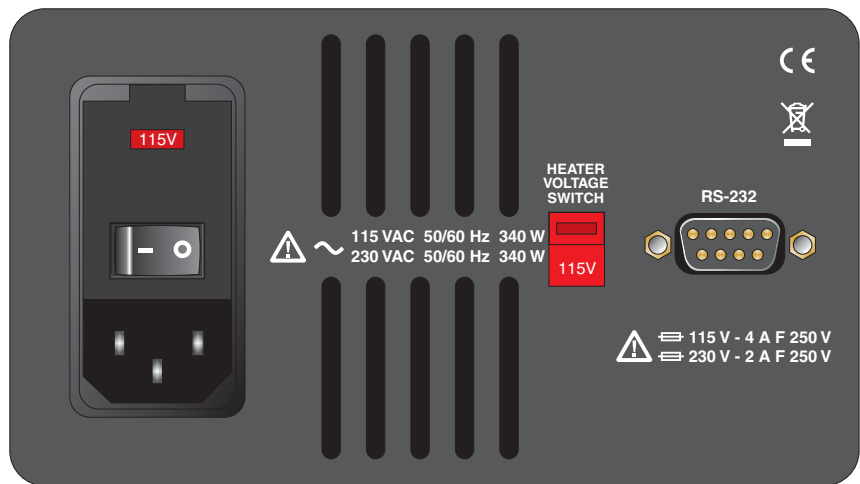

Figure 2 Back Panel
The back panel (Figure 2) consists of the power cord inlet, power switch, heater voltage switch, serial port, and fan.
5. Using the same straight slot screwdriver, move the heater switch to display “230V”. See the back panel drawing in Figure 2 on page 15.